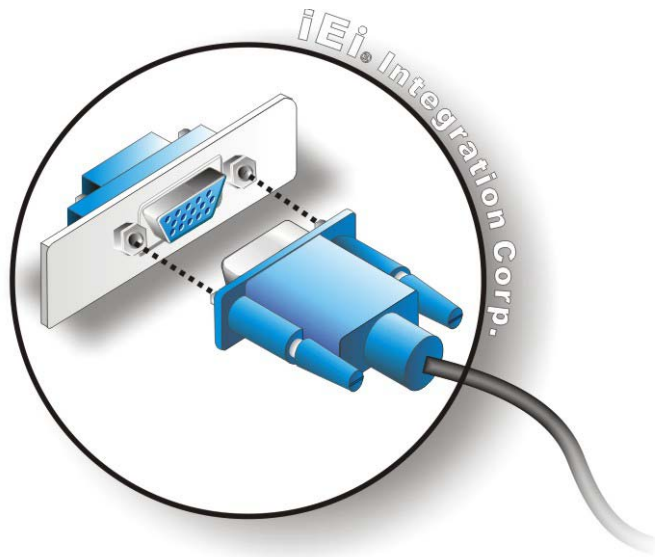

Figure 3-23: VGA Connector
Step 3: **Insert the VGA connector** Once the connectors are properly aligned with, insert the male connector from the VGA screen into the female connector on the TANK-860-HM86 Series. See **Figure 3-23**.